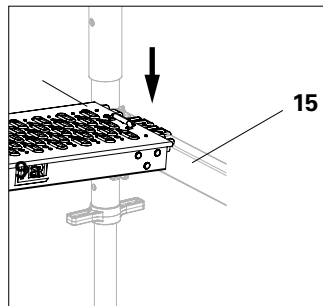
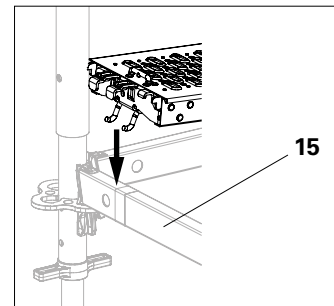

Fig. A7.01a
Fig. A7.01b
2. Place the deck on the ledgers one after the other. (Fig. A7.01a + Fig. A7.01b)